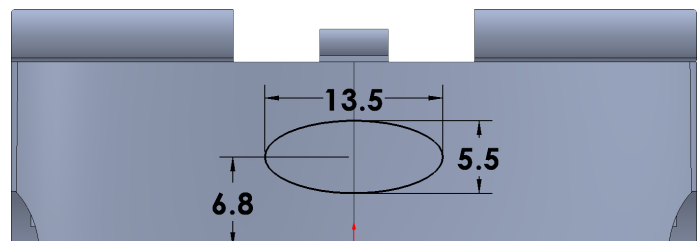

Fig. 106
Step 7. Click **Smart Dimension** (S)  on the Sketch toolbar.
Step 8. Add dimensions, **Fig. 106**.